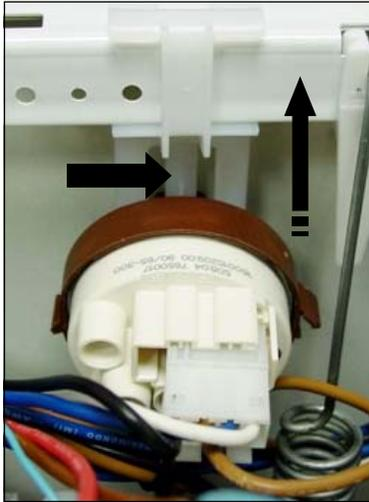

Fig. 10-1
- To remove the Pressure Switch, first remove the Top Panel as described in Section 2, then push in on the center support of the Pressure Switch Bracket and slide the Pressure Switch up and off (Fig. 10-1).